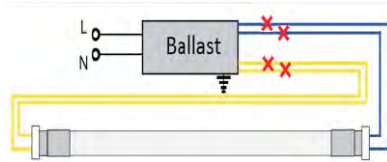

Figure 2
STEP 4: Disconnect connections to existing ballast as shown in Figure 2. Cut as far away from the lamp holders to allow for longer lengths of wire at both lamp holders. Properly discard ballast or leave it in the fixture with the wire capped off.